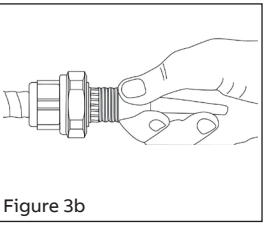

Figure 3b
- 4b Slide sealing chamber onto cable and compound. Screw sealing chamber to body sub-assembly until it completely seats on body. Remove any excess compound (Figure 3b).